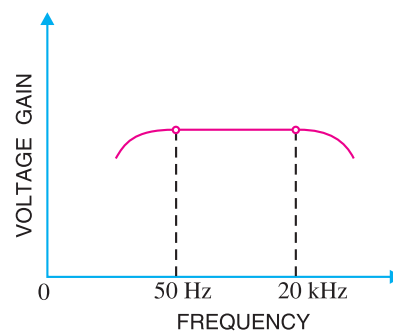

Fig. 11.10
**Frequency response.** Fig.11.10 shows the frequency response of a typical  $RC$  coupled amplifier. It is clear that voltage gain drops off at low ( $< 50$  Hz) and high ( $> 20$  kHz) frequencies whereas it is uniform over *mid-frequency* range (50 Hz to 20 kHz). This behaviour of the amplifier is briefly explained below :